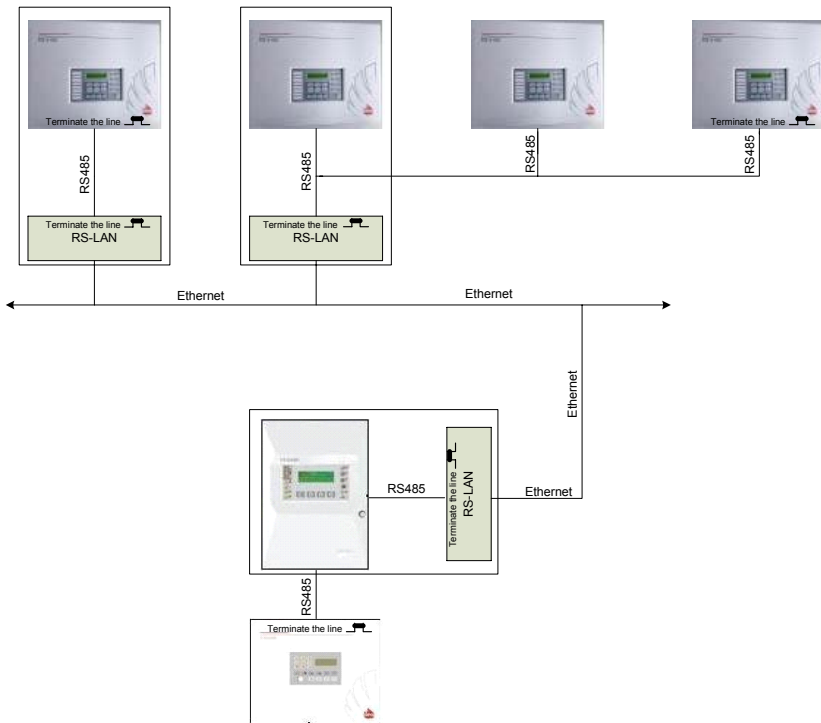

Fig.4
2.2.1.1. Check the position of jumpers JP1, JP2 and JP3. If the module is an end of device, then place jumper JP3 into position "terminating resistance on". Example for termination of the line is given on Fig.4
2.2.2.1. Check the position of jumpers JP1, JP2 и JP3. If the module is an end device, then place jumper JP3 into position "terminating resistance on". Example for termination of the line is given on Fig.4.